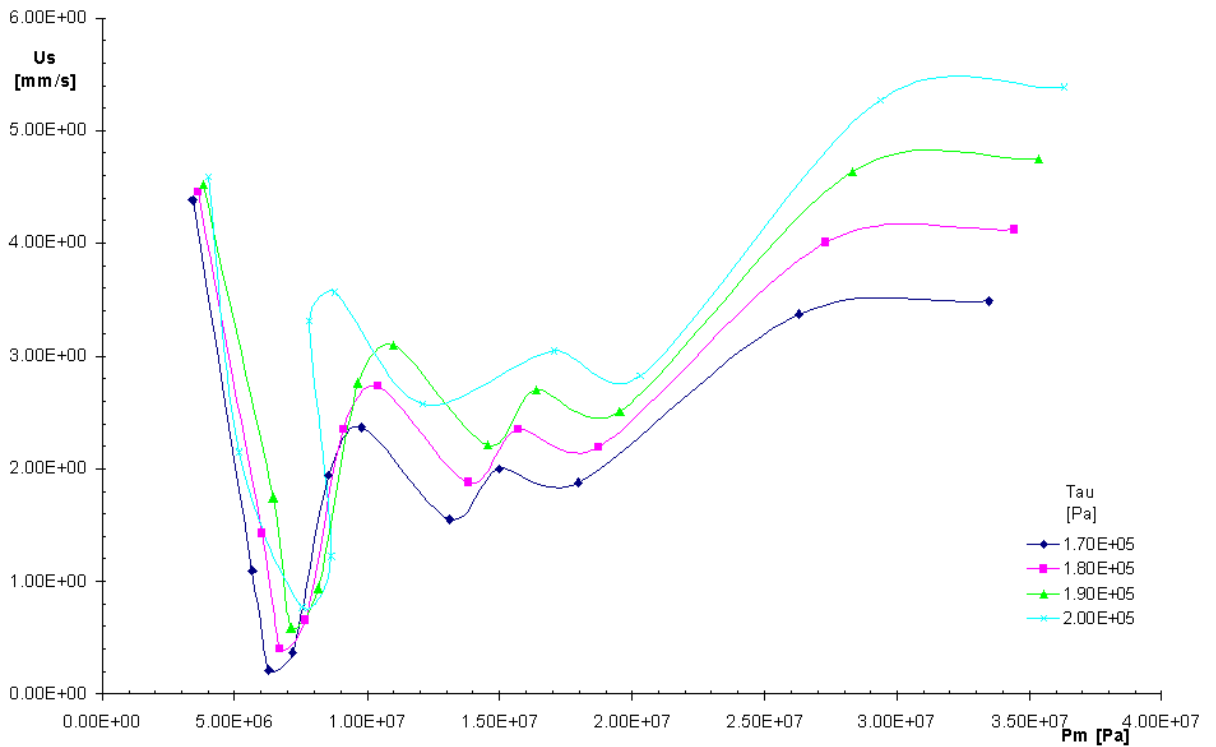

Figure 4: Slope of wall slip velocity at constant shear stress as a function of pressure
1. wall slip behaviour is influenced (figure 4) and
Figure 4 shows the following 3 areas of wall slip in dependence of the counter pressure:
The characteristics in figure 4 and 5 delivers an extended basis for the simulation of processing techniques with the boundary condition wall slip at screw and die.